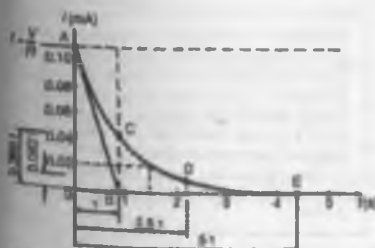

Figure 18.6
- (c) The current/time characteristic is constructed in the same way as the capacitor voltage/time characteristic, shown in part (a), and is as shown in Fig. 18.6. The values are: